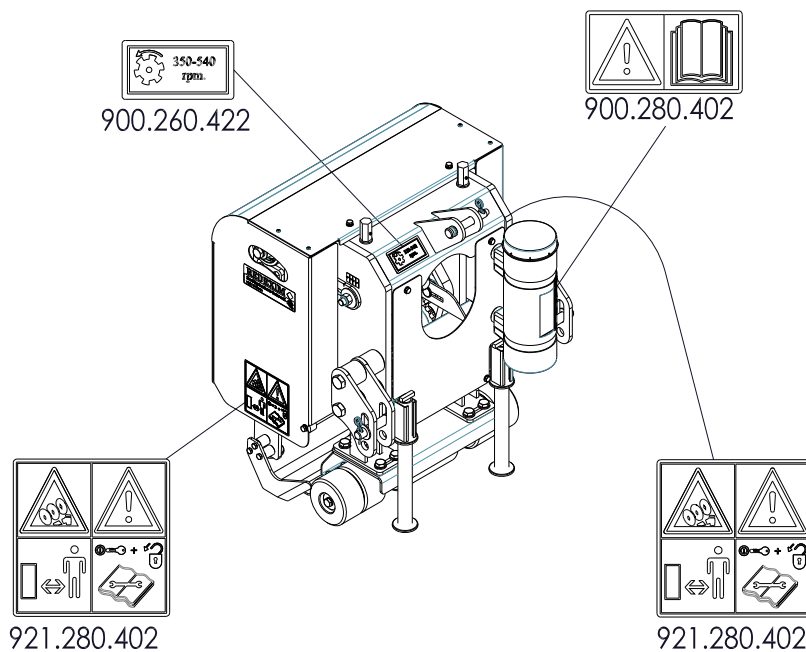

Figure 5
A safety sticker with an identical meaning is attached to the sideboard (Figure 5) on both sides of the Turf-Cutter. This safety sticker must always be clearly visible and legible and must be replaced if they have become damaged.
(6) Location of the safety stickers (Figure 5)